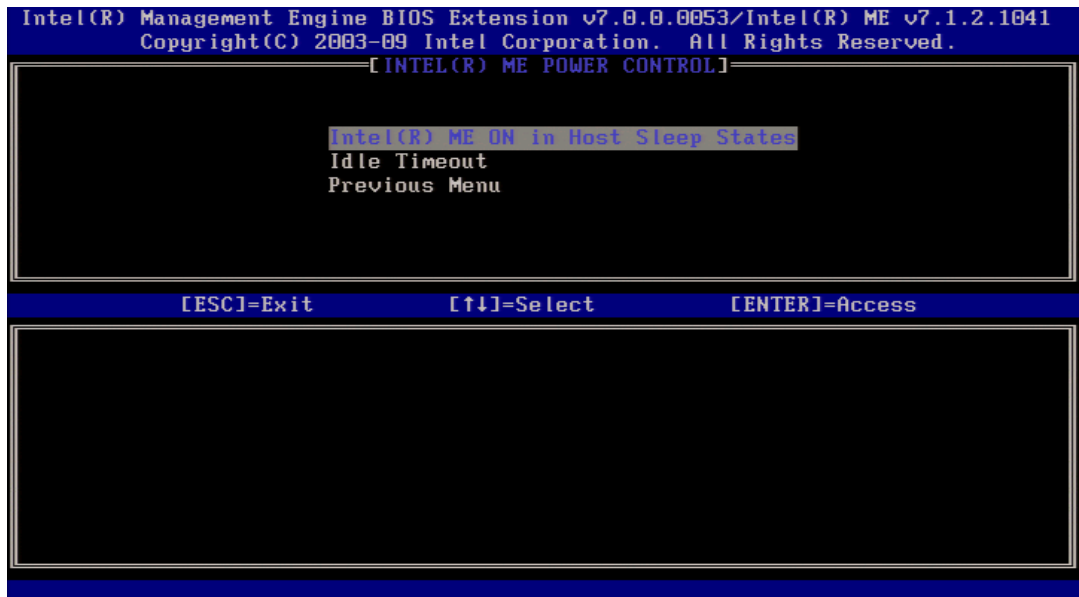

Figure 5. Intel ME Power Control Screen
7. At the previous menu, select **Power Control** and then select **Intel ME ON in Host Sleep States** (Figure 5)